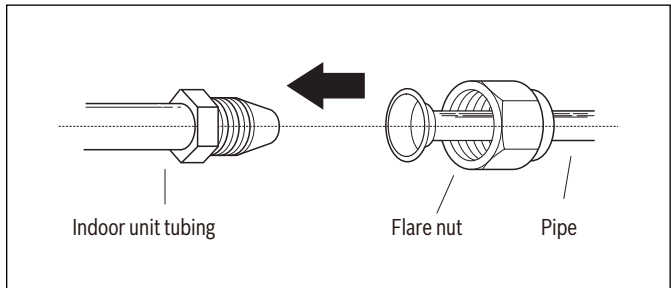

Figure 46
2. Align the center of the two pipes that you will connect. See Figure 46.